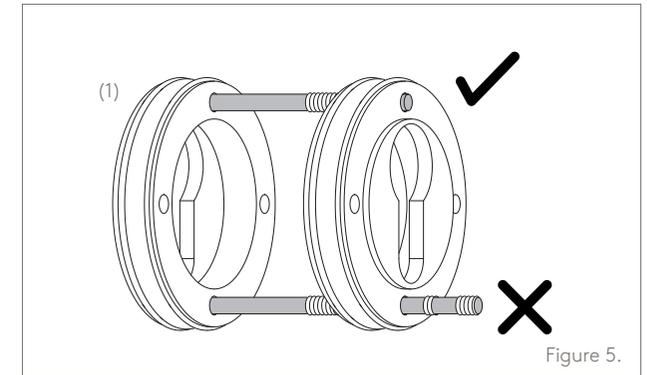

Figure 5.
- 4.2. Ensure to cut so that the screw does not protrude from the opposite rose once installed. (Figure 5.)